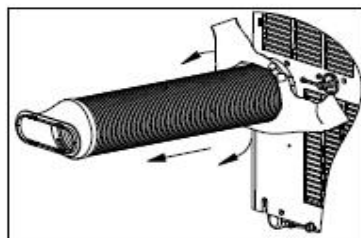

Fig.30
- Disconnect the exhaust hose and cover the window with the adaptor cap. (Fig.30)